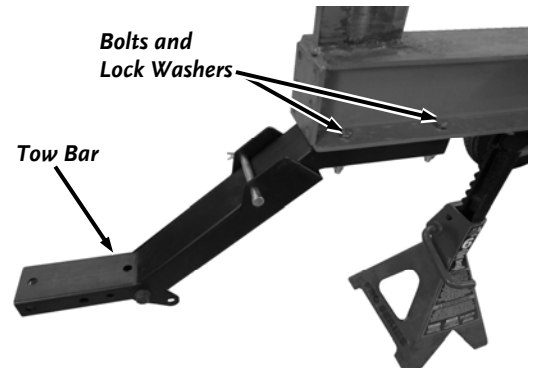

Figure 4
4. Remove the four Bolts and Lock Washers securing the Tow Bar using two 9/16" Wrenches and remove the Tow Bar (Figure 4).